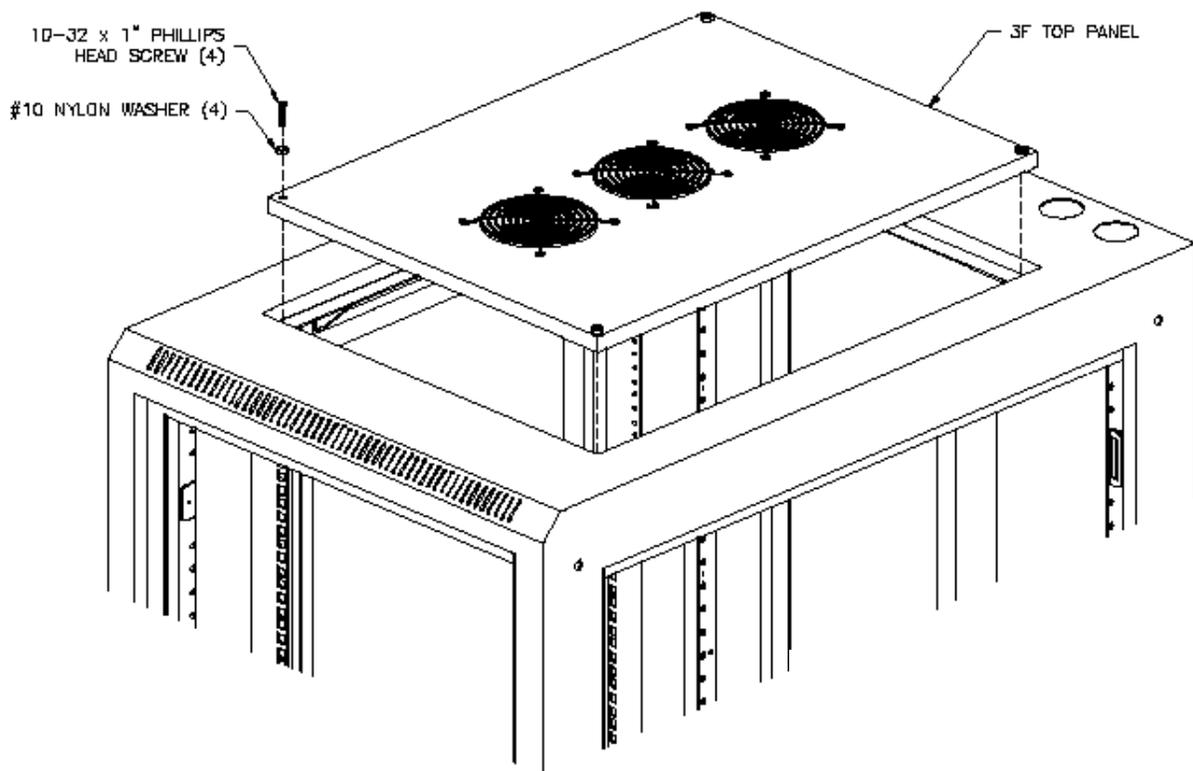

Figure 1. Top panel.
4. Install four 10-32 x 1" screws and four #10 nylon washers (see Figure 1).